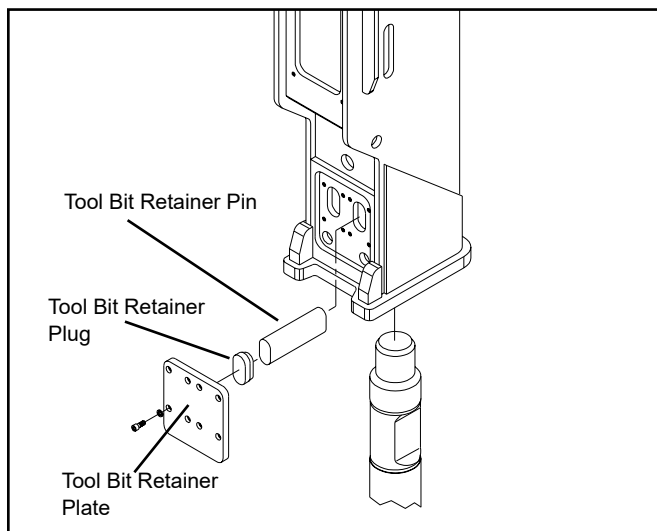

Figure 3.
1. Lay the breaker in a horizontal position to install the tool bit. Remove the tool pin retainer plate and the tool retainer plugs, see Figure 3 below.